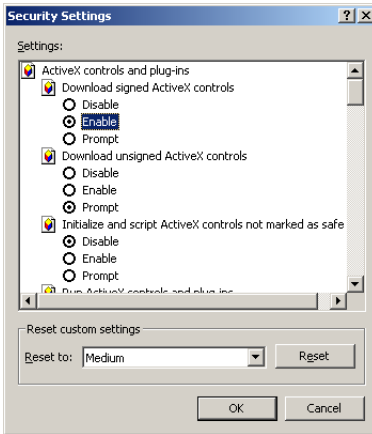

Figure 5-4 ActiveX Security Settings
8. In the Settings list, locate the ActiveX controls and plug-ins and select the following options (See Figure 5-4):